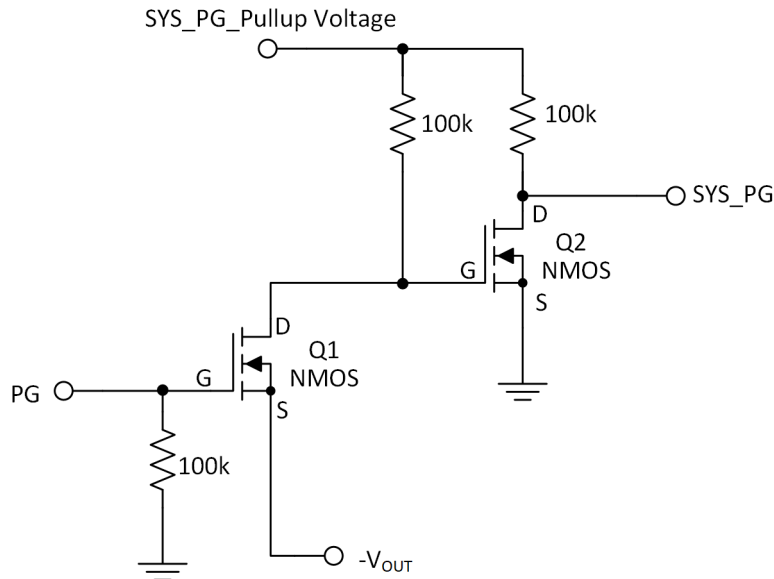

**Figure 2-3. External Feedback with 2.5 MHz Switching Frequency and Auto PFM/PWM**
TPS629210-Q1 has a MODE/S-CONF pin which can be used to customize the device behavior. Refer to schematic in Figure 2-2 and Figure 2-3
- The external feedback configuration shown in Figure 2-3, where the MODE/S-CONF pin can be tied to  $-V_{OUT}$  directly to configure as 2.5 MHz switching frequency, Auto PFM/PWM with AEE and output discharge enabled.